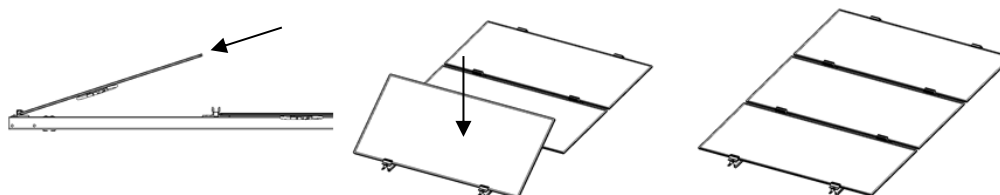

Figure 4 Install Third module onto Sub-Frame
- 1.5 Install the third module. Insert the solar module into the end clip and lay the solar module flat onto the insulator. Be sure to center the module on the Sub-Frame. Figure 4